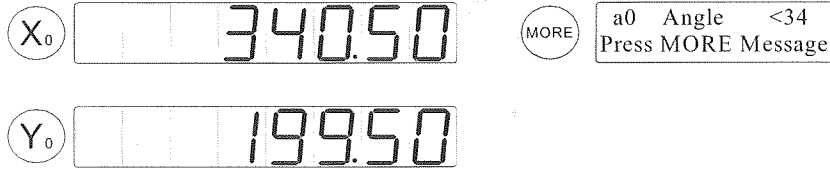

Figure 2-45 Angle Message
- e. Press the MORE key to view the message of the angle. (Figure 2-45 and 2-46).
The message displayed as in figure 2-45 and 2-46 means as follows: